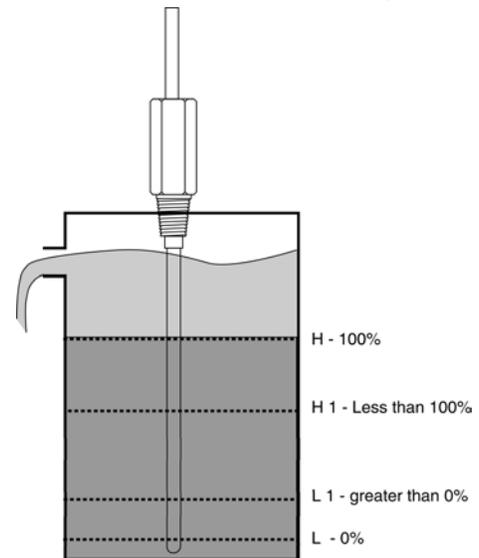

Figure 3.
Three calibration procedures are described here. Follow the one, which best suits your application. Note the following definitions used in the calibration procedures, referring to Figure 3.
- (b) If there is no change in output when performing “Zero” adjustment first, perform a “Reset” and “Offset”, with the tank empty or at L (Figure 3.) level, before starting calibration.
1. Fill the tank to L1, some point above 0% level and record this level as L1 (Refer Figure 3.). To determine the loop current at L1 level use the following formula: